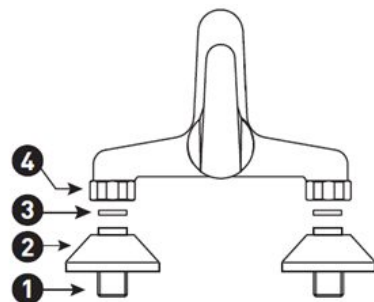

Fig. 2
The taps should be installed in the following order: (see fig. 2) - screw in the eccentric connections (1) to the system section ended with the internal thread G1/2, sealing the connection with Teflon tape (avoid applying too much seal) - the axes of the eccentric holes on the side of G3/4 thread (or on the side of the double O-ring seal in the taps equipped with such eccentrics) should be at the same height.